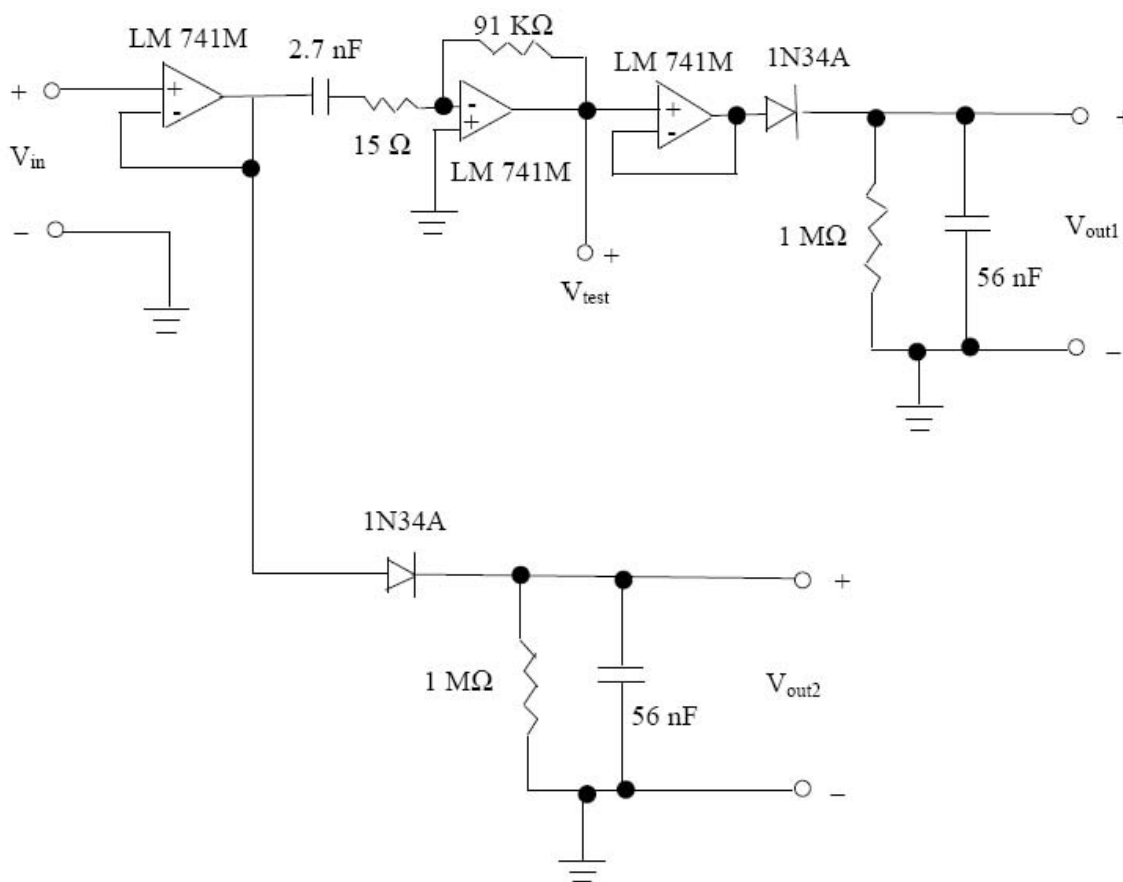

Figure 2.1.1: Frequency Discrimination Circuit
**Your Task.** Your GSI has constructed the frequency discriminator circuit shown in Fig. 2.1.1 except that he or she has removed four of the components. You will find these components next to the board. The circuit has been reproduced in the first section of the Post-Lab. On that diagram, circle which components are missing. Then, complete the circuit by inserting the four components in their proper location. Once you have done so, have your GSI check your work. They should sign off on the circuit diagram in Section 4.1 before you go on to the rest of the lab.
- (a) (i) Connect your signal generator to the input denoted  $V_{in}$  and connect your scope between  $V_{test}$  and ground (see Fig. 2.1.1). [*Important note: When making these measurements it is necessary to avoid saturating the operational amplifier, and thus the op-amp output voltage must be less than the applied power supply voltage. To be on the safe side, set the input signal amplitude so that the op-amp output signal level does not exceed  $\pm 5$  V.*]
- (b) Connect the signal generator to channel 1 of the scope and to the input (i.e.,  $V_{in}$ ) of the circuit shown in Fig. 2.1.1.
Your GSI will come to your lab bench and he/she will set your signal generator to a “secret” frequency and voltage. You will be asked to determine this frequency using your frequency discriminator circuit. [*Hint: Suppose that  $V_i(t) = A \sin(\omega t)$  in Fig. 2.1.1. Compute the voltages  $V_{test}(t)$ ,  $V_{out1}(t)$  and  $V_{out2}(t)$ . What should*
Figure 2.6.1: Low-pass filter before input of frequency discriminator;  $V_{in,comp}$  will come from the headphone jack and  $V_{in}$  is the same as shown in Fig. 2.1.1
Next, set-up the simple low-pass filter, as shown in Fig. 2.6.1, so that the output of the filter is connected to  $V_{in}$ , as shown in Fig. 2.1.1. This low pass filter is necessary to eliminate some high frequency noise that